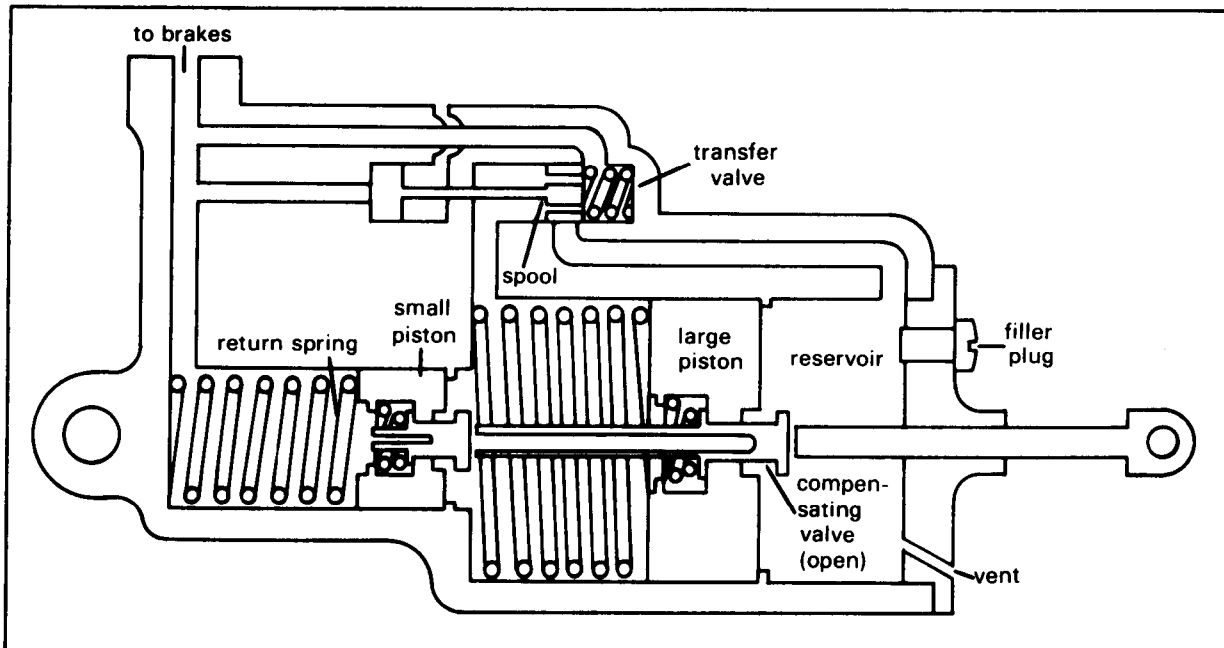

**Figure 10-1. Simple master cylinder in the released position.**
**Simple master cylinder.** These cylinders are restricted to light aircraft. Some have integral reservoirs; others are connected with in-line reservoirs by a hose. In some designs, a push rod actuates the piston; in others a pull rod performs this function. Figure 10-1 shows an integral reservoir; the piston is actuated by a push rod. Note that the illustration shows the cylinder in the released position with the compensating valve open. This allows any thermally expanded fluid within a connected wheel brake assembly to pass freely into the reservoir; from the reservoir, the fluid passes back into the assembly to replace fluid that may have been lost due to minor leakage. When the brake pedal is depressed, the first few thousandths of an inch of travel of the master cylinder push rod closes the compensating valve and traps the fluid that lies between the underface of the piston and the wheel brake assembly. Further depression of the brake pedal moves the piston within its bore and forces fluid out of the master cylinder into the wheel brake assembly. Releasing the brake pedal retracts the master cylinder push rod. This action allows the piston spring to open the compensating valve and to hold it open until the pedal is depressed again.